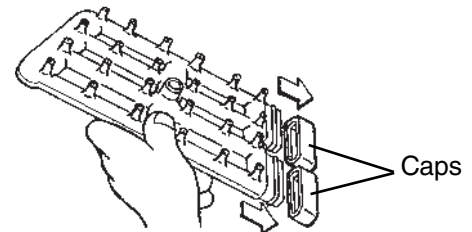

Fig. 38
- 8) Remove the two caps. See Fig. 38.